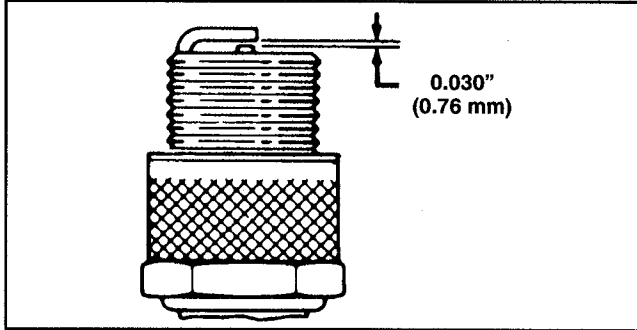

Figure 12
3. Set air gap at 0.030" (0.76 mm) (Fig. 12). Install correctly gapped spark plug and gasket seal. Tighten plug firmly to 15 ft-lb (20 N-m).